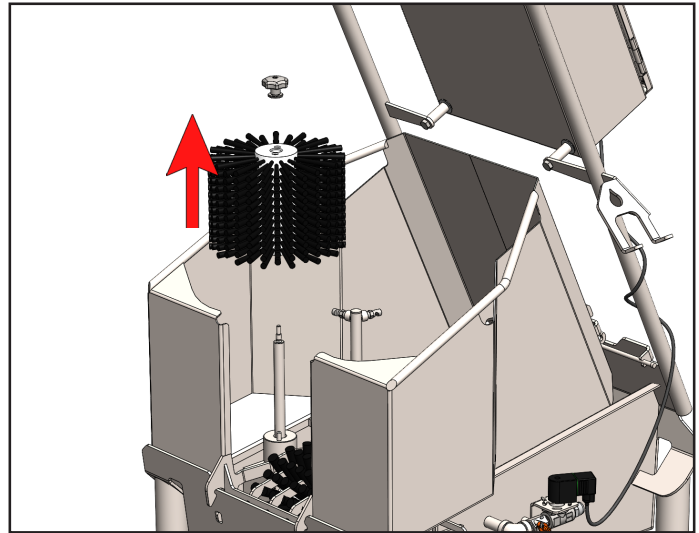

Fig. 8.1: Removing vertical brushes
2. Remove the two vertical brushes by unscrewing the knobs at the top of each brush and lifting them up and off of their shafts [Figure 8.1].